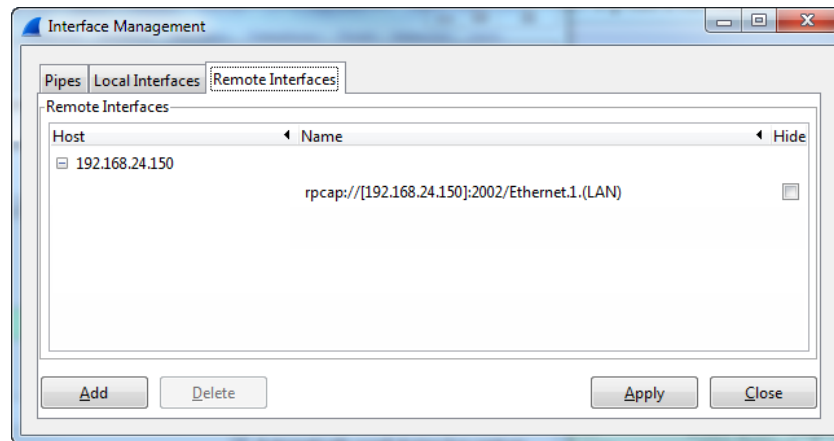

Figure 165: Added new interface to Wireshark.
7. If the connection to the device was established successfully, the **Remote Interfaces** list will be updated with information about all capture ports available on the device as shown in Figure 165.